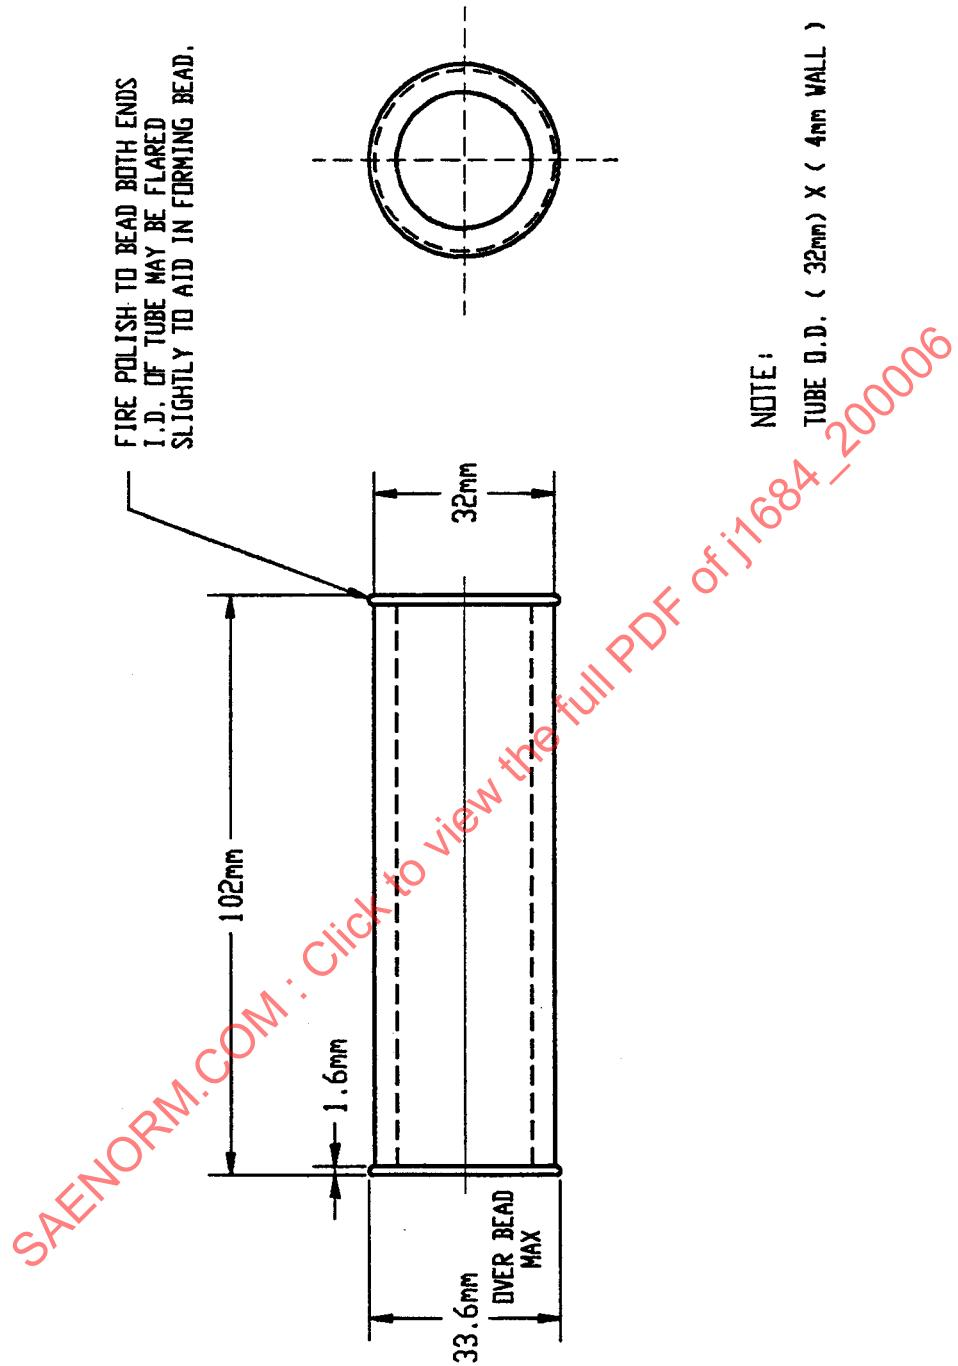

FIGURE 2—GLASS TUBE WITH BEADS ON ENDS
3.5 Glass insulator to isolate electrically the hose samples attached to the negative and positive terminals. See Figure 2.